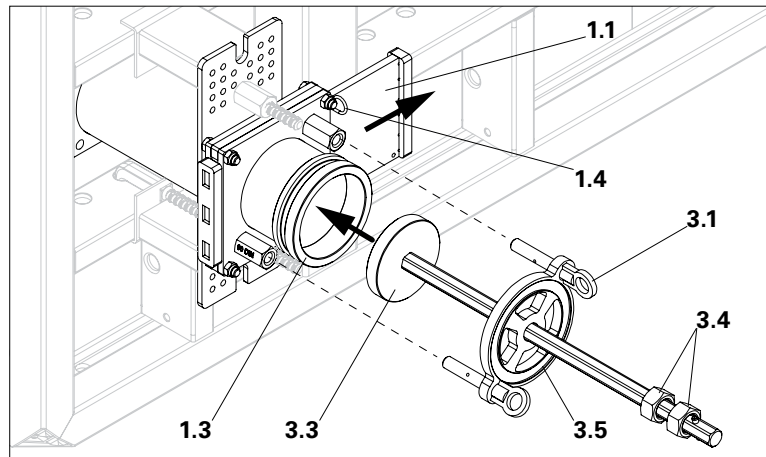

Fig. A.07
2. Insert the reamer plate (3.3) into the pipe connection (1.3) and screw on the fixing board (3.5) tightly with the eye bolts (3.1). (Fig. A.07)